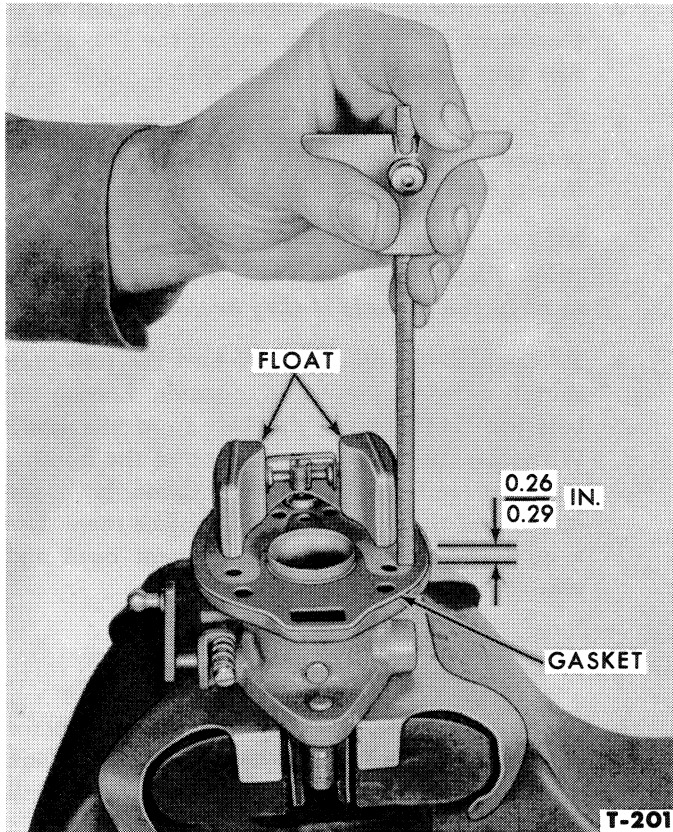

Figure 8—Checking Carburetor Float Level
6. Adjust the float so that it measures 0.26-0.29" from the gasket to the nearest edge of the float, as shown in Figure 8. The float is adjusted by bending the hinge. Use caution when bending the hinge to avoid damaging the mounting bracket.